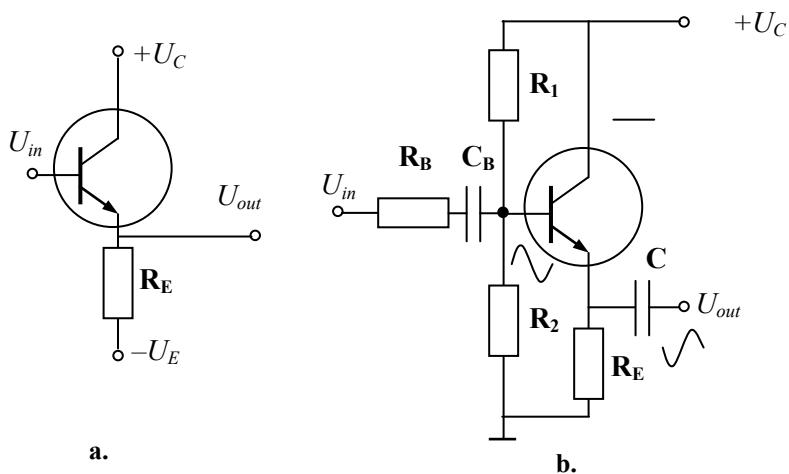

Fig. 2.13
**Emitter followers.** In the emitter followers, the load is connected to the emitter as shown in Fig. 2.13,a. Typically, the voltage gain of the emitter follower is ultra-stable and close to unity, also the current gain is much higher. Both of them are defined as
Fig. 2.13,b shows another design of the emitter follower. There, the base ac voltage produces an emitter ac current. Thanks to the limiting resistor  $\mathbf{R}_B$  and the coupling capacitor  $\mathbf{C}_B$ , an ac voltage appears at the emitter. The biasing is arranged with the help of  $\mathbf{R}_1$  and  $\mathbf{R}_2$ . Because of the output capacitor  $\mathbf{C}$ , this voltage is coupled to the load. Since the emitter is no longer at ac ground, the ac voltage across the emitter is approximately equal to the